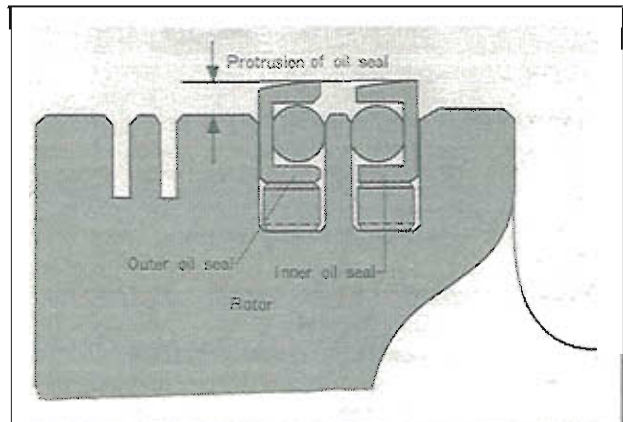

Fig. 1-66 Protrusion of oil seal
2. Check the oil seal protrusion shown in Fig. 1-66. The protrusion should be more than 0.5 mm (0.20 in).